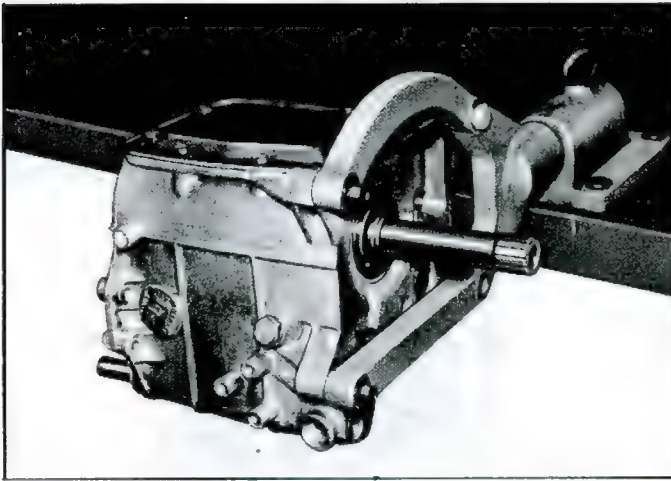

Fig. 7A-4—Transmission in Fixture J-7896
1. Mount transmission in holding fixture J-7896 (fig. 7A-4).
- a. Disassemble J-8361 and install the adapter and screw assembly (fig. 7A-5) in slot in clutch gear hub.
- c. Loosen screws securing bearing snap ring fingers on dome assembly, place fingers between open ends of snap rings, then fully open snap ring with pliers (fig. 7A-6) and tighten finger screws to retain ring fully expanded.